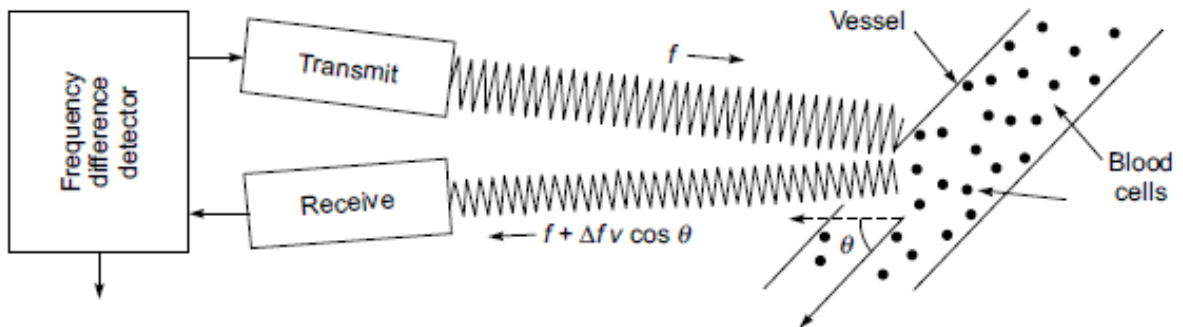

Fig. 4.6.2 Principle of ultrasonic Doppler-shift flow velocity meter
- ❑ The principle is illustrated in Fig. 4.6.2. The incident ultrasound is scattered by the blood cells and the scattered wave is received by the second transducer.
- ❑ Assuming that the incident and scattered radiations are both inclined at θ to the direction of flow as shown in **Fig. 4.6.2**